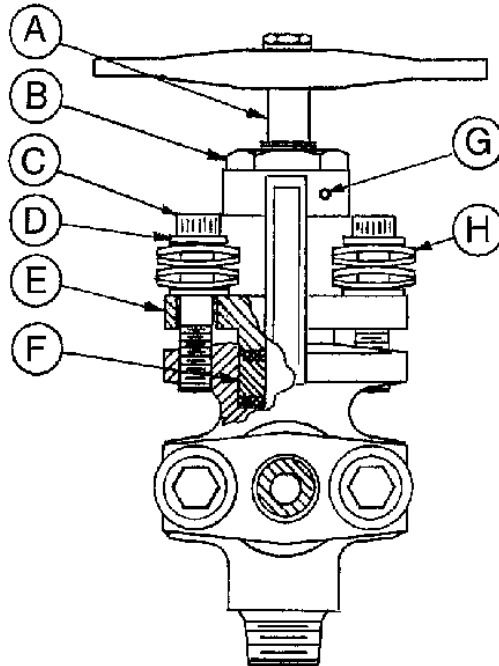

Fig. 1 - Live Loaded SG Valve
- 10) Install the washers and the cap screws as shown in Fig. 1. Make sure the spring washers are oriented as shown in Fig. 1.